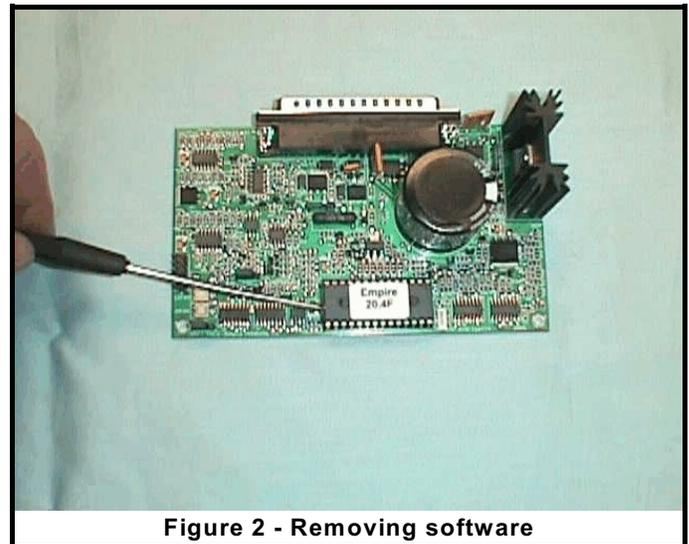

Figure 2 - Removing software
- 4) Using small flat blade screw driver carefully insert under chip between base. Lift chip a small amount then go to other side and complete same (**Figure 2**). Continue until chip is free of socket base.